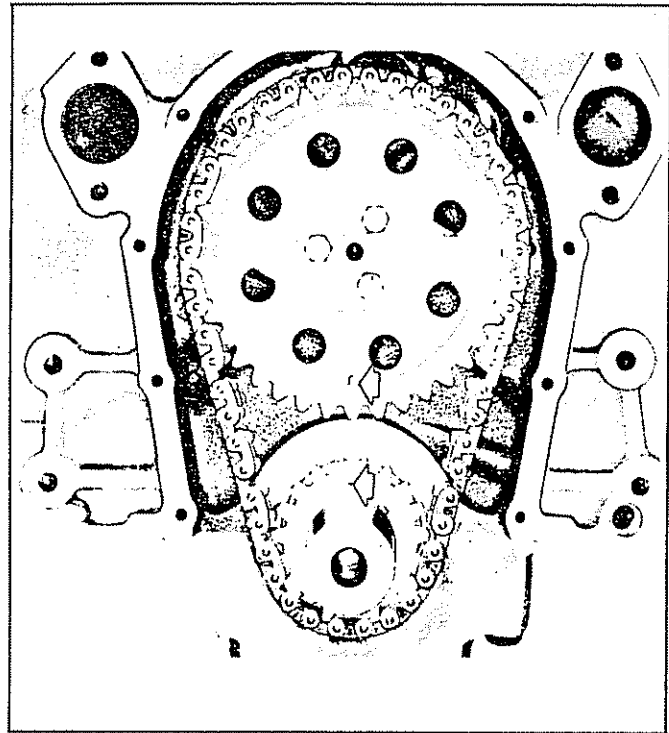

Fig. 6A2-32—Timing Sprocket Alignment Marks
2. Install timing chain on camshaft sprocket. Hold the sprocket vertically with the chain hanging down and align marks on camshaft and crankshaft sprockets. (Refer to Fig. 6A2-32). For right hand engines index timing gears to align sprocket marks.